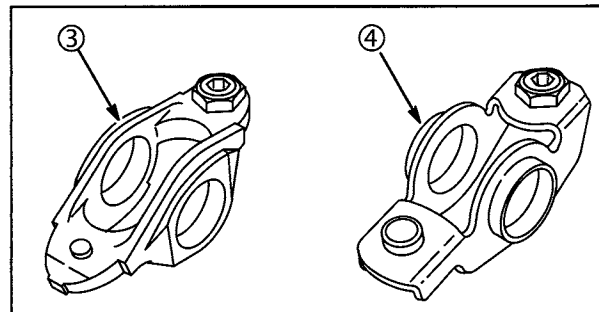

Fig. 3
Style 2: Engines manufactured before 960401xx but after 931031xx are equipped with cast aluminum rocker arms (3) with a rocker arm shaft, Fig. 3.
Style 1: Engines manufactured before date code 931101xx were equipped with stamped steel rocker arms (4) with a rocker arm shaft, Fig. 3.